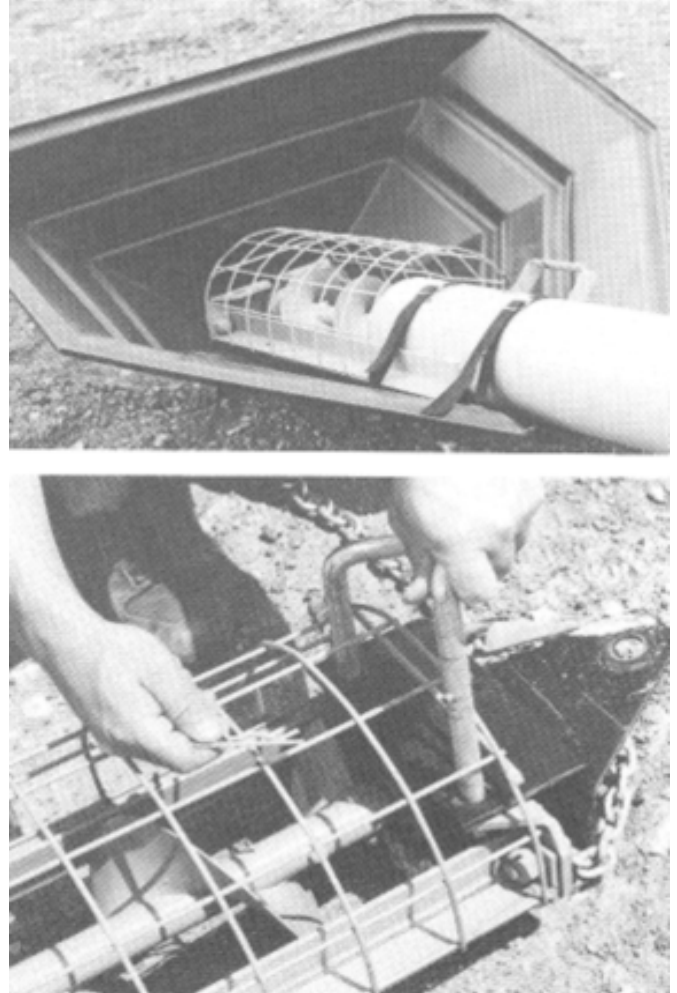

Fig. 3 HITCH ASSEMBLY
8. Slide the hitch assembly over the front of the intake. Install the anchor pins and their retainers. See figure 3.